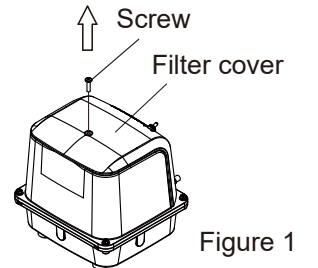

Figure 1
- ①Be sure to pull out the power plug from the electrical outlet before work.
- ②Remove the screw by the screw driver as shown in Figure 1.